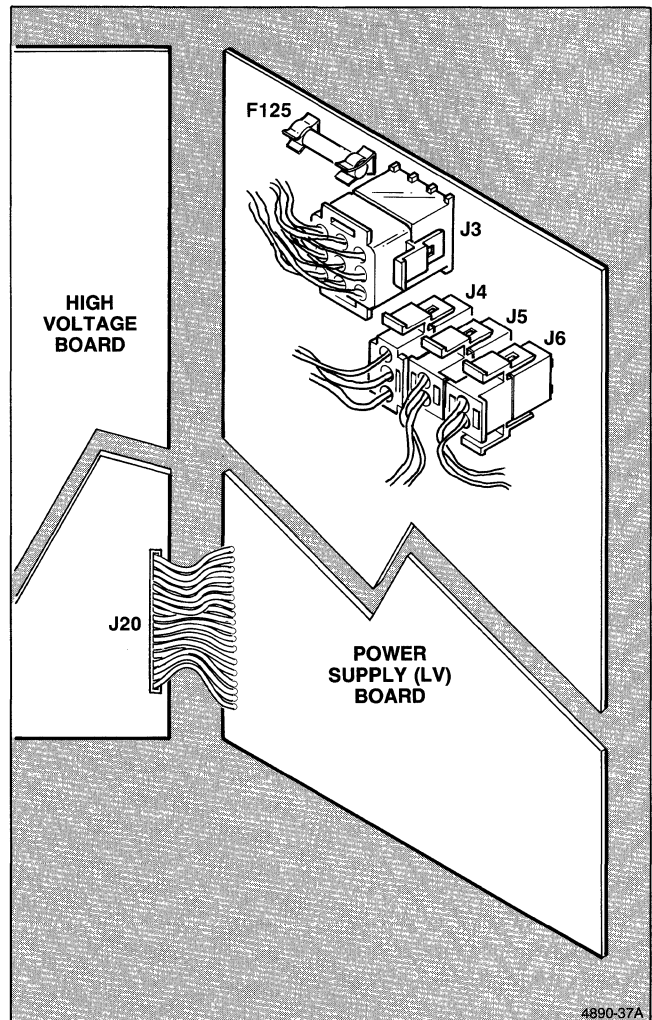

Figure 6-18. LV Board Connectors.
To access the Low Voltage (LV) board, you must remove the side panel that covers this circuit board (see prior procedure, "Side Panel Removal"). Now, refer to Figure 6-18 while performing these steps.